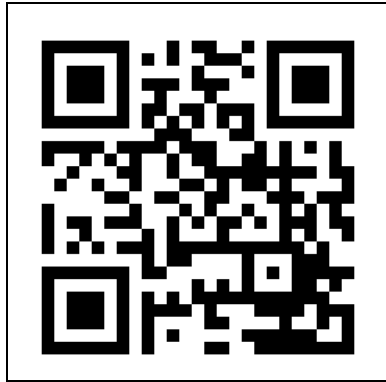

Figure 18
1. Open the Eurom Smart App manual with the QR code (Figure 18) or go to www.eurom.nl/nl/manuals.
5. Remove the batteries from the remote control (Figure 18).